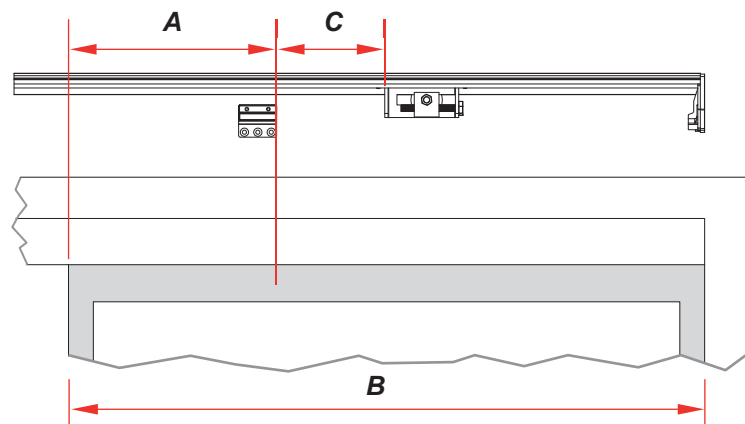

Figure 10: Bi-parting doors: belt tensioner and bottom bracket. The right side is shown with the right door open.
2. Slide the belt tensioner along the base until it is in front of the **left-hand door** as shown in Figure 10, where: